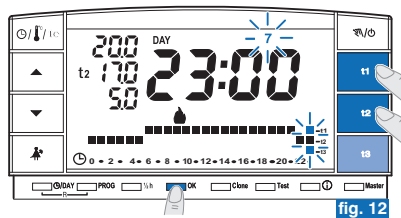

fig. 12
- Once the temperature profile is set for **Sunday (7)**, press **OK** (example in fig. 12) to save and return to Monday's (1) settings, **then press the OK key again for 4 seconds** (example in fig. 13); **this operation saves the complete weekly program.**